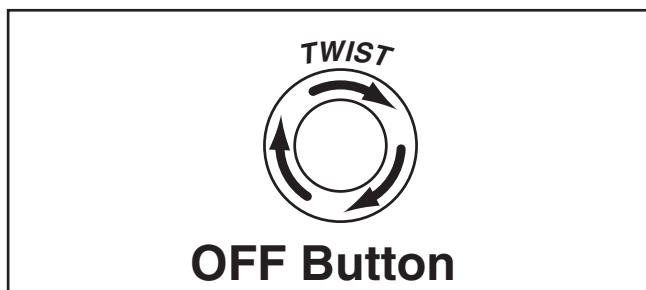

Figure 22. Resetting the OFF button.
4. Twist OFF button clockwise until it pops out (see **Figure 22**). This resets button so machine will start.